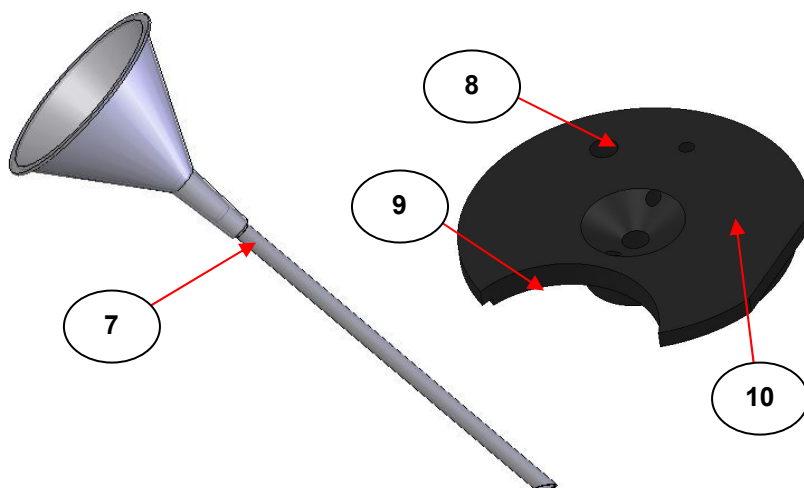

Fig 2. Dewar Cap and Funnel Parts of Low Temperature Golden Gate™ ATR Accessory
When filling the dewar chamber (6) with LN2, the plastic funnel (7) supplied helps to direct the refrigerant to the bottom of the outer part of the dewar and prevents accidental spillage of the refrigerant to other areas of the equipment. The funnel (7) can be used for introduction of a liquid refrigerant to pass through the small hole (8) or the crescent shaped cut out (9) in the dewar cap (10). (See Fig 2).